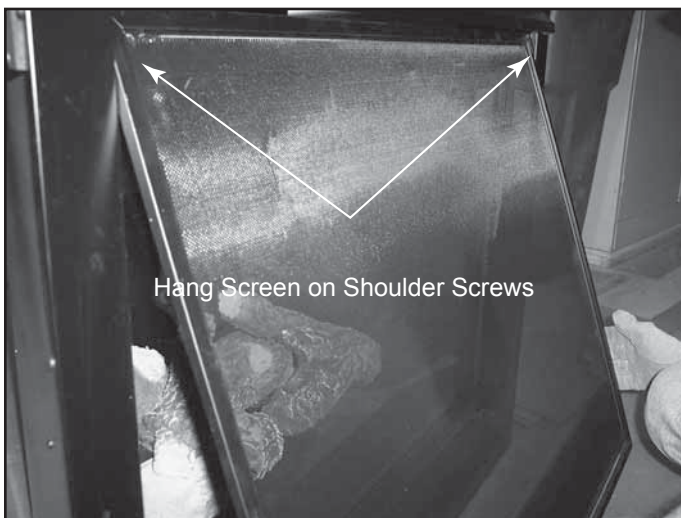

Figure 15.12 Hang Screen
- Hang the screen on the shoulder screws in the columns. See Figure 15.12.